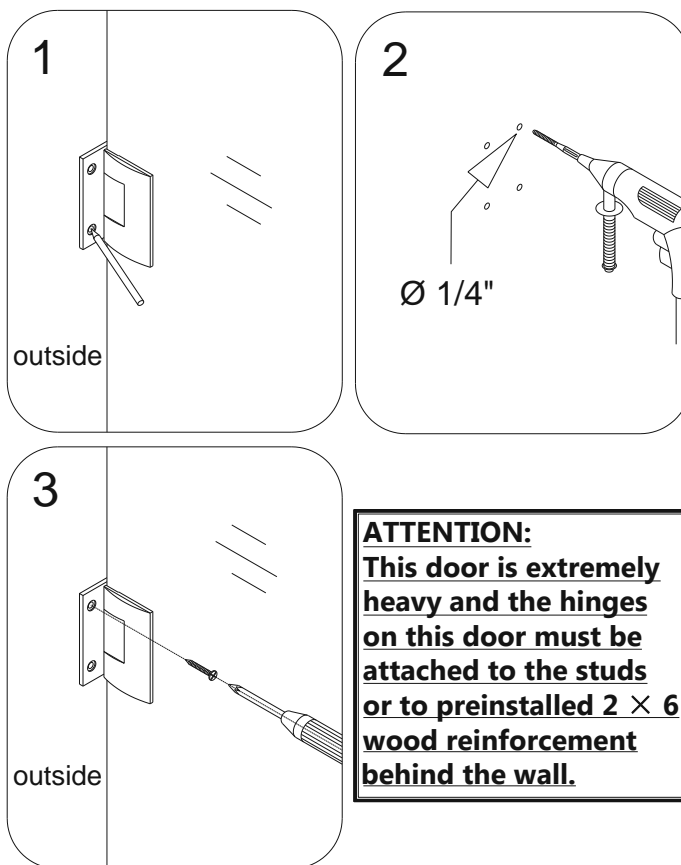
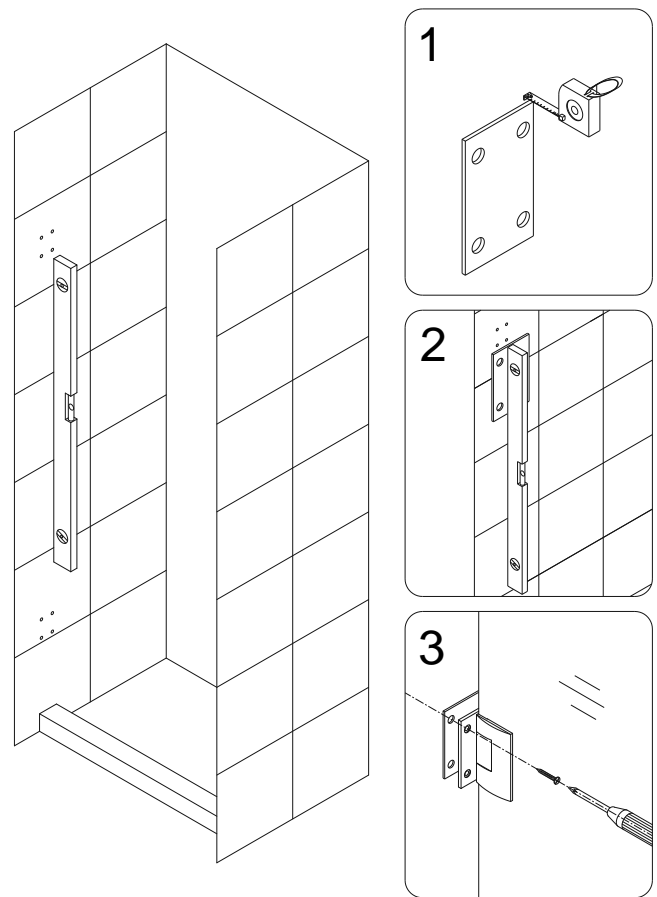

Fig. 3
Fig. 4
3. Hold the door in place and mark the drill holes for both **Hinges (05)** on the wall. Set the door aside and use a  $\text{Ø } 1/4''$  drill bit to drill holes up to the stud. Drill 1/8" pilot holes into the stud if necessary.
**The included PVC hinge spacers (31) are provided to compensate for minor out-of-plumb wall conditions. Use only as necessary as their use could compromise the opening size of your shower. Please see Fig 4 for an installation example\*.**
4. Place the **Door Glass (01)** back onto the threshold along with the 5/8" spacers and attach both hinges to the wall with two **Countersunk screws ST5×70 (04)** on the hinge from outside of the shower. Then open the door and install the remaining screws to both wall plates from the inside.
**(Fig 3 and Fig 4)**